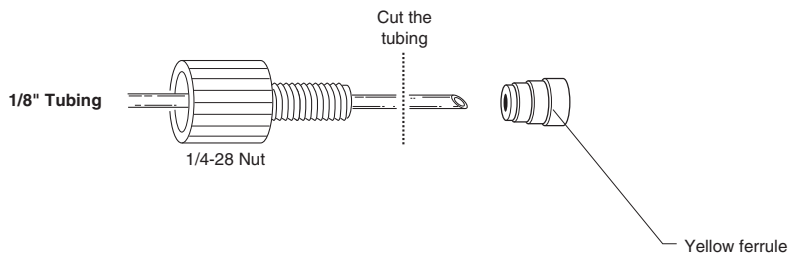

Fig. 5. Injection valve plumbing connections.
1. To attach the 1/8" 1/4-28 fittings to the loop for connection to the injection valve, slide a 1/4-28 nut onto the sample end tubing of the DynaLoop. Slide a yellow ferrule over the end of the tubing. The blunt end of the ferrule must face away from the nut (Figure 5). Repeat this procedure for the buffer end tubing.